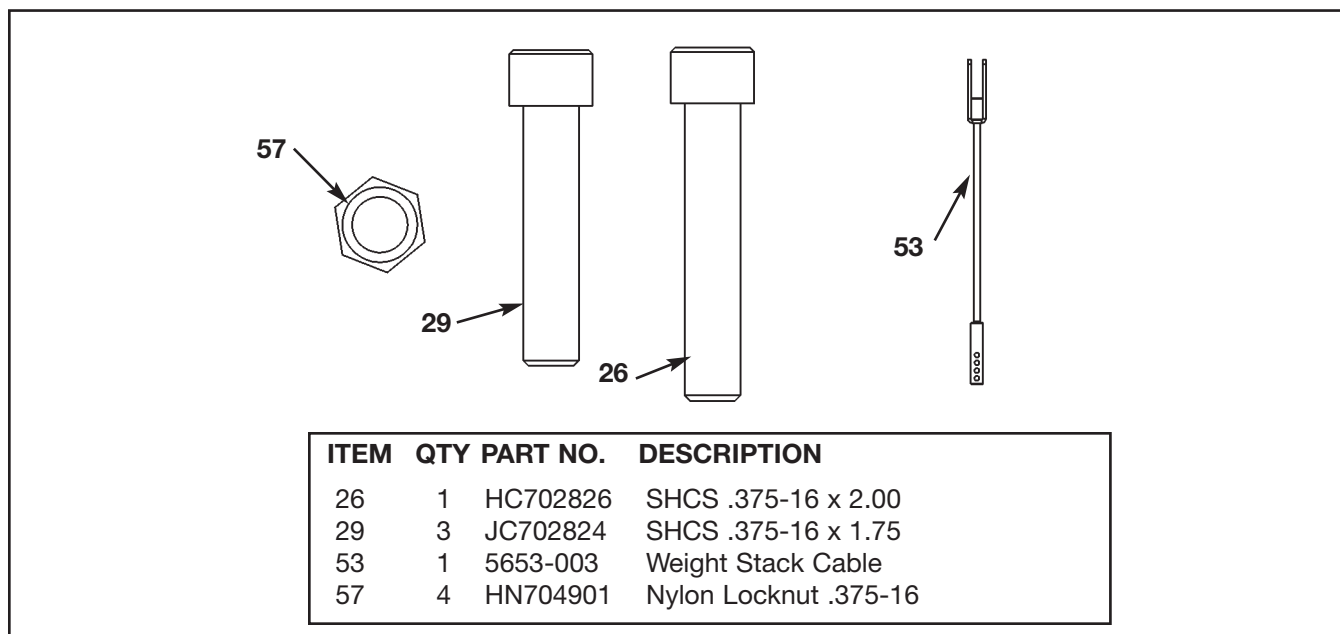

Figure 5
- F.** Remove both hardware packs from the carton and verify the contents of each. See Figures 5 - 7.
NOTE: Figures 5 and 6 are for the Free Standing configuration.
- A.** Locate the half weight peg (#67), BHSCS .25-20 x .75 (#84) and split lockwasher (#82) from the column hardware pack shown in Figure 5.